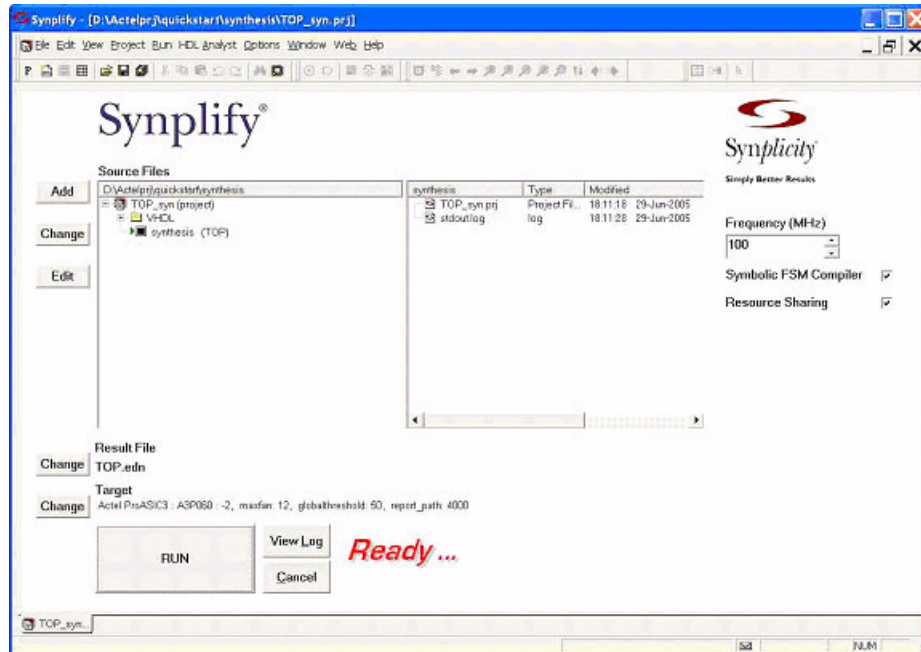

Figure 7-25. Synplify Main Window
1. In the Libero IDE, double-click the Synplify **Synthesis** icon in the Libero IDE process window, or right-click the **Top.vhd** file in the Design Hierarchy and select **Synthesize**. This launches the Synplify synthesis tool with the appropriate design files, as shown in Figure 7-25.